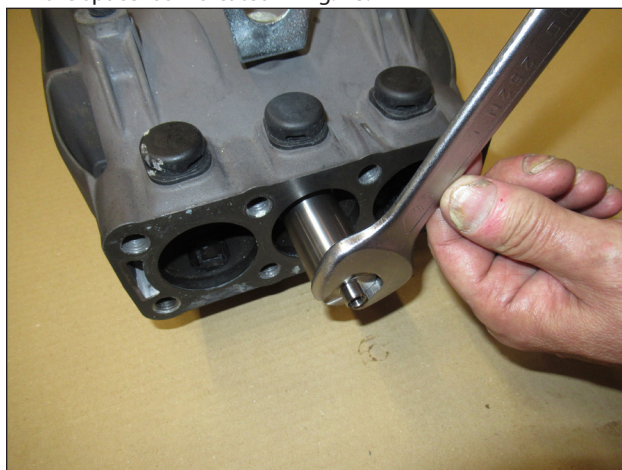

Fig. 48
- A) After having removed the head and the head spacer, free the spacer as indicated in Fig. 48.